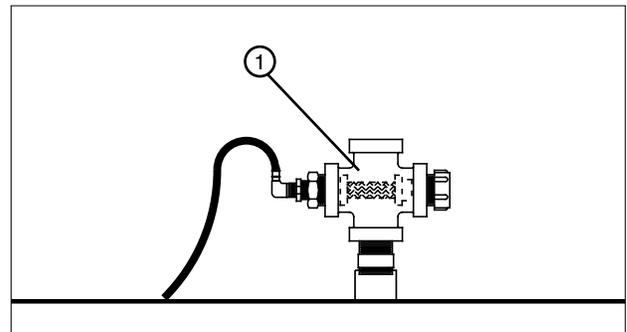

Figure 73-3 1. Cross Filter
- Clean the end gun shut off solenoid valve cross filter or optional dirty water filter. See figures 73-3 and 73-4.